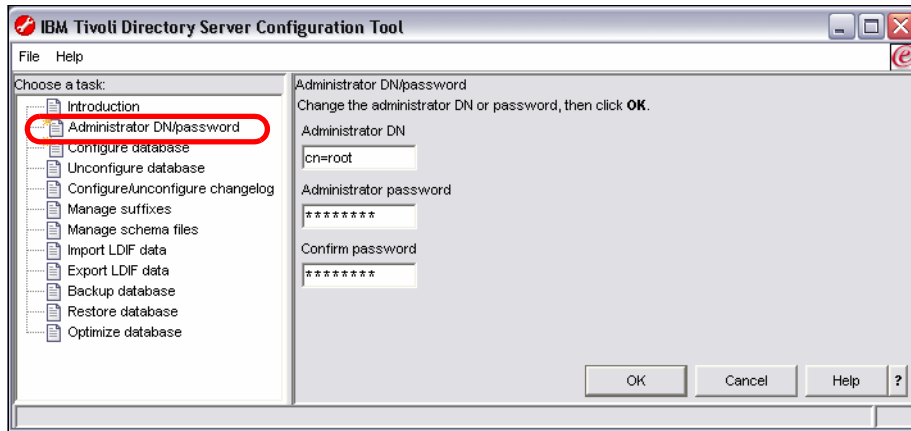

Figure A-44 Directory Server Configuration: Administrator
- ▶ In the left pane, select *Administrator DN/password* (Figure A-44).